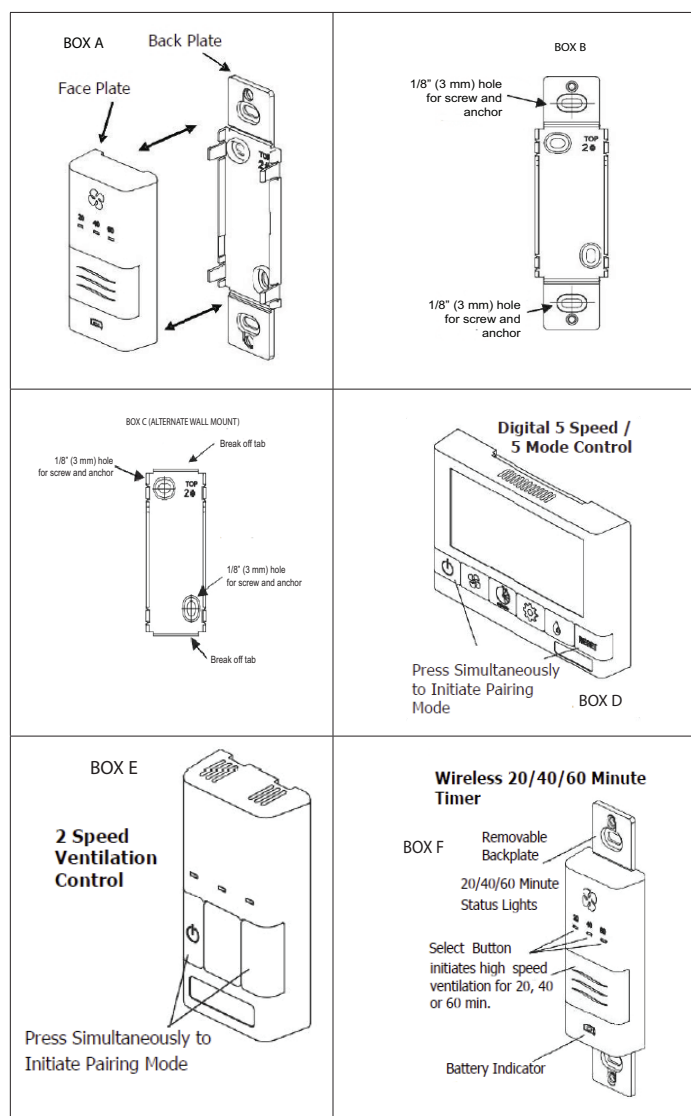

Figure 35. Wireless Timer Installation
2. Pairing **Wireless 20/40/60 Minute Timer with Digital 5-Speed / 5-Mode Control:** Press the left and right buttons simultaneously on the main wall control  (and RESET buttons). The screen will go blank and the wireless symbol  appear flashing on the bottom right of the display. This indicates that the main control is now in pairing mode (Figure 35, Box D).
3. Pairing **Wireless 20/40/60 Minute Timer with Wall Mount Dehumidistat/Ventilation Control:** Press the left and right buttons simultaneously on the main wall control  and either  or  buttons, depending on the main control). The bottom row of three LEDs will begin flashing. This indicates that the main control is now in pairing mode (Figure 35, Box E).
1. Separate the face plate from the back plate by firmly pulling apart (Figure 35, Box A).
2. For mounting the control without a decorative plate, break off top and bottom tabs and refer to Figure 35, Box C for mounting.
- Place the back plate of the control in the desired location on the wall and pencil mark the top and bottom screw holes (Figure 35, Boxes B or C). Drill two 1/8" (3 mm) holes.
- Attach the face plate to the back plate (Figure 35, Box A).